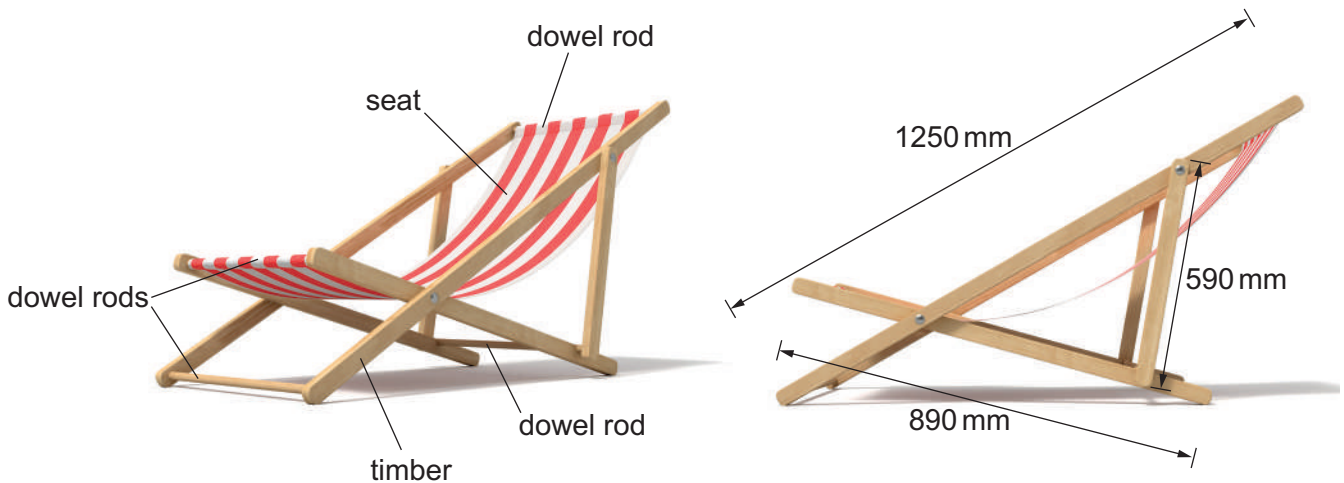

Fig. 2
2 Fig. 2 shows a traditional style deck chair.
- (b) The deck chair frame in **Fig. 2** is made from six pieces of timber (excluding dowel rods).